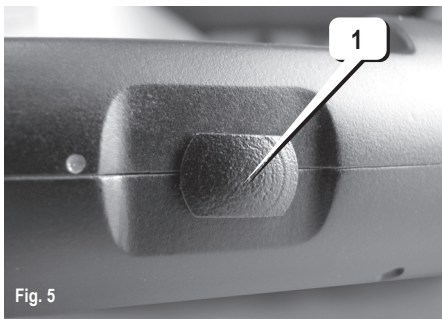

Fig. 5
5.4. On the side surface of the control panel (see 1 in Fig. 5) a slide-type power switch is placed. A slide position corresponding to «ON» is marked by a contrast point. Each time before operating the device it is recommended to fully charge the battery.
7.2. To start operation set the battery and turn «LORNET-24» on by the power switch placed on the control panel (Fig.5). The 2nd and 3rd indicators on the control panel will light up, indicating that the